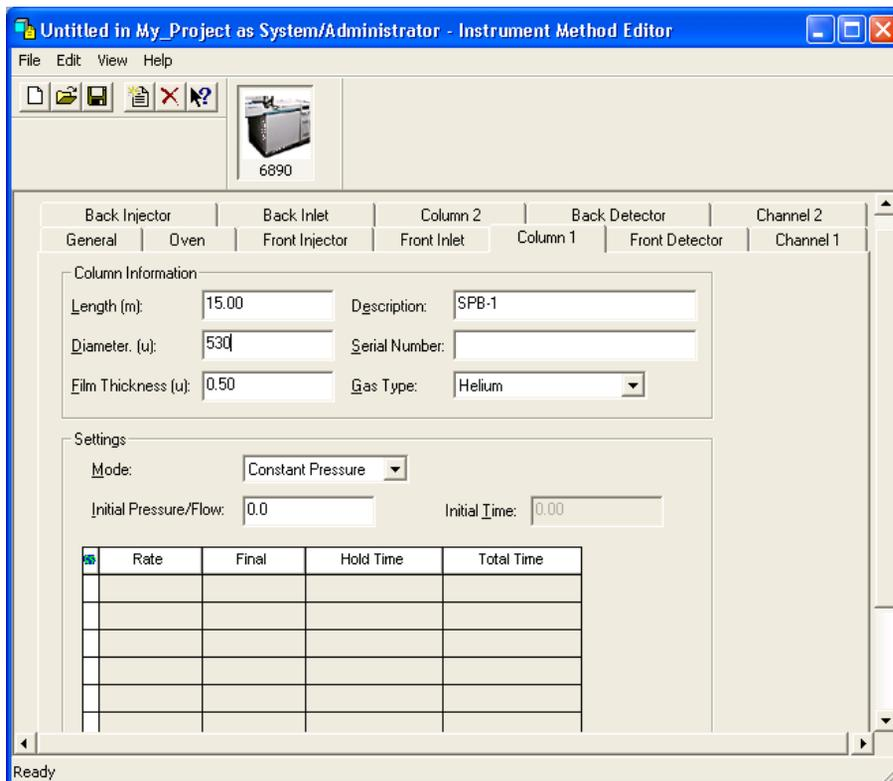

Figure 3-6 Instrument Method Editor, 6890, Column 1 Tab
5. Click the **Column 1** tab. The Column 1 tab appears (Figure 3-6).